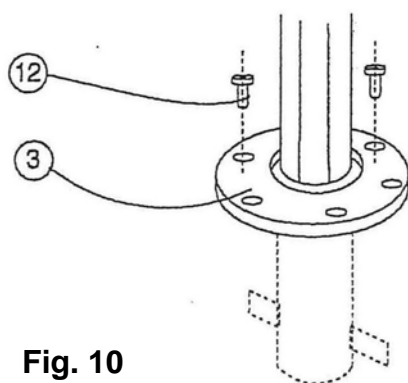

Fig. 10
- Remove the wraparound ring and secure the padded ring with the inserted crank handle (Fig. 10).